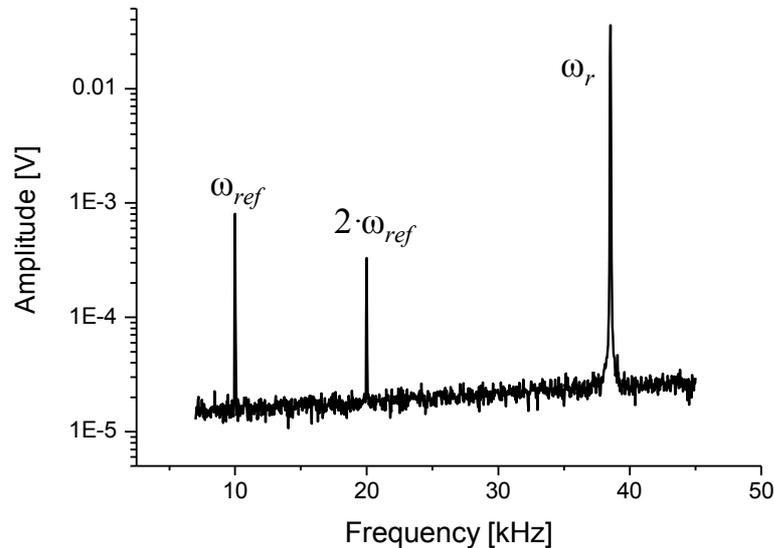

Figure 5: Frequency spectrum of the oscillating cantilever
Inserting equation (6) in (5) and using power-reduction formulas of trigonometric functions one can expect a force between tip and sample at the frequency ω_{ref} as well as at $2 \cdot \omega_{ref}$. Figure 5 confirms this prediction: It shows the frequency spectrum of the cantilever oscillation with clear signals at the mechanical excitation frequency ω_r and at the frequencies of the first and second harmonic of the electrical excitation.